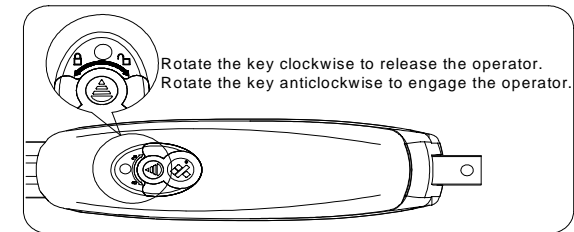

Fig.16
**8. Mechanical / Adjustment**Manual operation (see Fig.16)